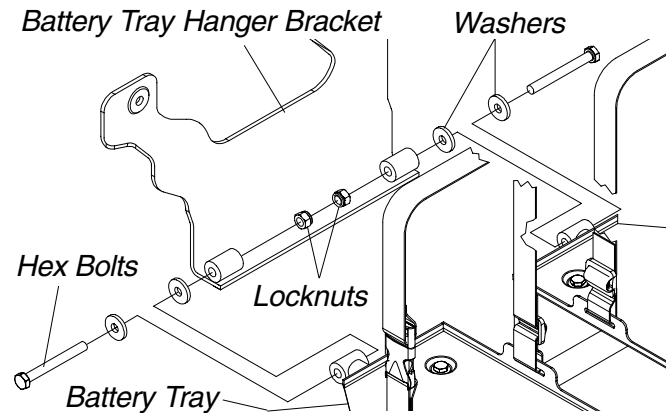

FIGURE 12 - REMOVING/INSTALLING BATTERY TRAY FOR R2_{BASIC} AND R2_{STANDARD}
REMOVING (FIGURE 12).
INSTALLING (FIGURE 12).
2. Secure battery tray to battery bracket with the existing two (2) mounting screws, four (4) washers, and two (2) locknuts. Torque mounting screws to 72-inch pounds. See Figure 12 for hardware orientation.